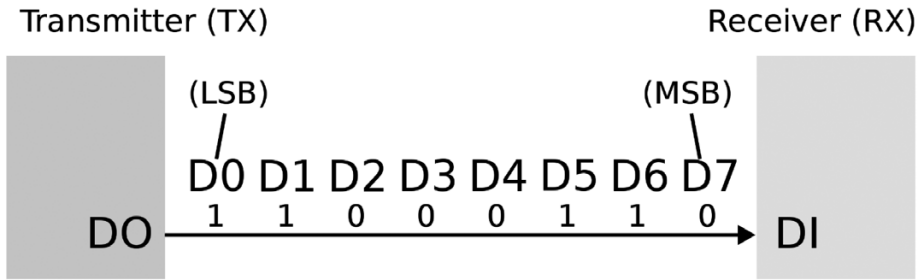

Figure 3-2: Serial data transfer.
A more efficient data transfer technique is Serial communication (or **serial bus**). Figure 3-2 represents a serial bus.
In serial communication systems, data bits are transferred in series, i.e., sequentially, over a single channel. Usually, a serial communication system has a transmitter (TX) and receiver (RX) pair for bidirectional communication. The serial data transfer is slower but more efficient in terms of hardware and cost. There are two types of serial communication: asynchronous and synchronous. In asynchronous serial communication, the TX and RX are not synchronized by any clock but by the data bits. The best and the most commonly used example of asynchronous serial communication is RS-232. Figure 3-2 shows "schematics" of male and female connectors for a pair of RS-232 communication devices.